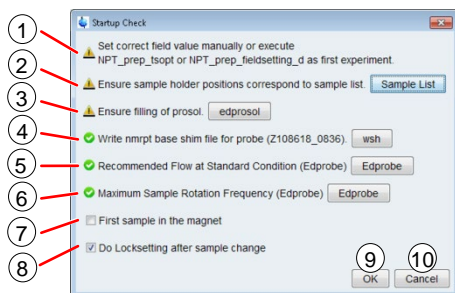

Figure 5-47: Startup Check dialog
The Startup Check window (Figure 5-47) appears if a queue is started for the first time or restarted after Stop (Figure 5-43 (6)) was applied.
## Startup Check Dialog (Figure 5-47)